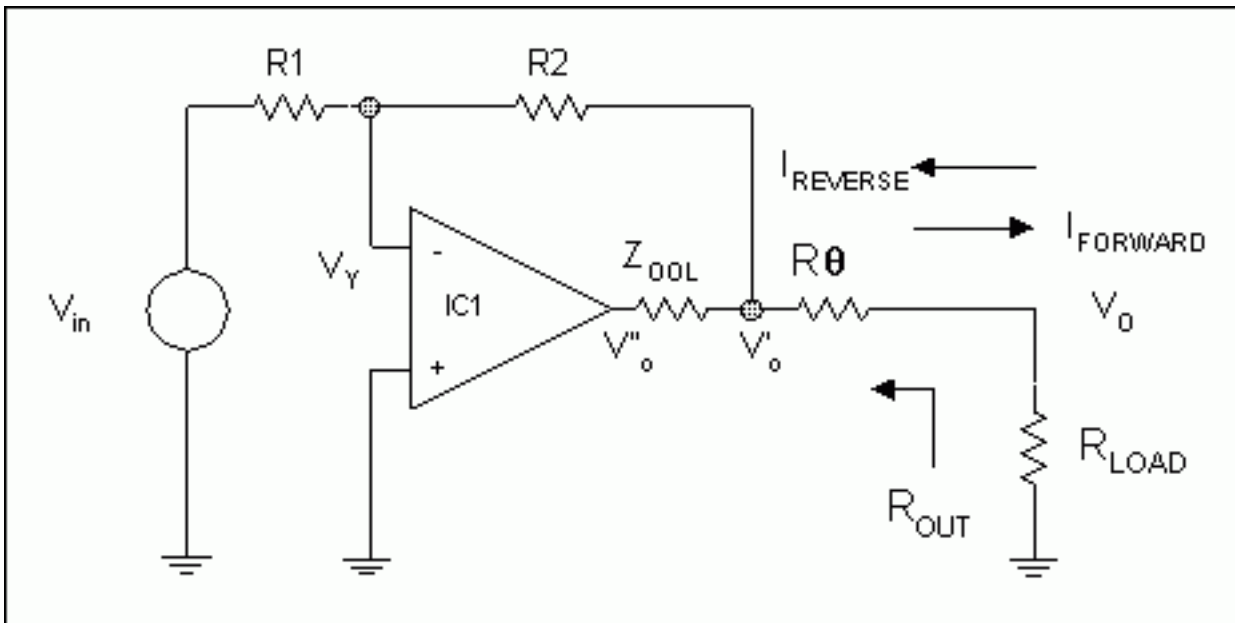

Figure 1. Simple passive termination.
**Figure 1** shows a closed-loop buffer amplifier with a series resistance added outside the feedback loop to set the output impedance when measured looking back into the amplifier load terminal.
Note in Figure 1 that forward current into the load,  $I_{\text{FORWARD}}$ , is determined by  $V_o/R_{\text{LOAD}}$ .
The understanding here is that the closed-loop output impedance of the op amp is low enough over a wide enough bandwidth to be ignored. Thus the chosen resistances set the output impedance. In Figure 1,  $R_{\theta}$  is the series resistor that sets the impedance looking back into the output of IC1.  $R_{\theta} = R_{\text{LOAD}} = R_{\text{OUT}}$  for correct back termination. The open-loop output resistance of the op amp is shown as  $R_{\text{OOL}}$ .